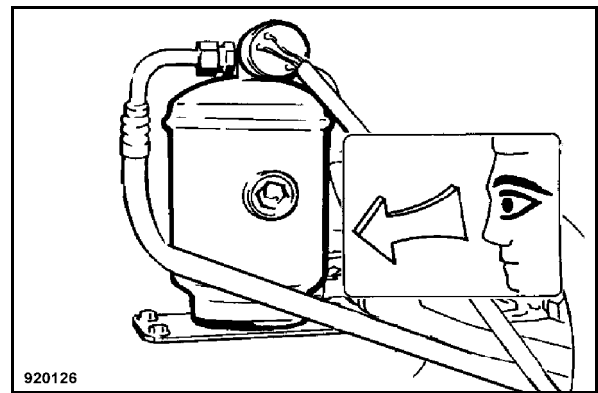

Fig. 160
- Check the drier/collector unit (Fig. 160) for mechanical damage or rust.